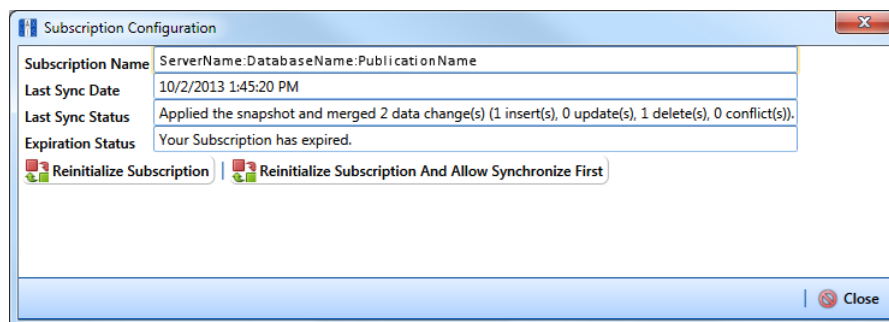
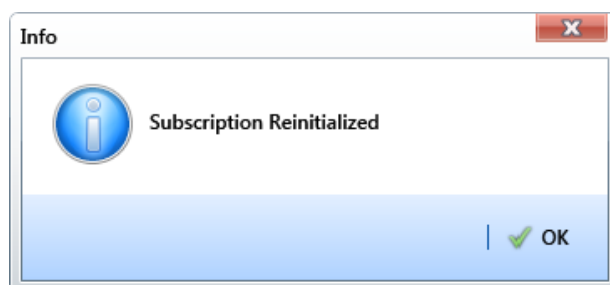

Figure 15-12. Subscription Configuration/Re-initialize Subscription
Figure 15-14. Subscription Reinitialized
- 2 Click **Tools > Subscription Configuration** to open the *Subscription Configuration* dialog box (Figure 15-12, page 602).
NOTE: The server name, database name, and publication name for the subscription display in the field *Subscription Name* (Figure 15-12, page 602).
- 5 Click  **OK** when the message *Subscription Reinitialized* displays (Figure 15-14). Then click  **Close** to close the *Subscription Configuration* dialog box (Figure 15-12, page 602).